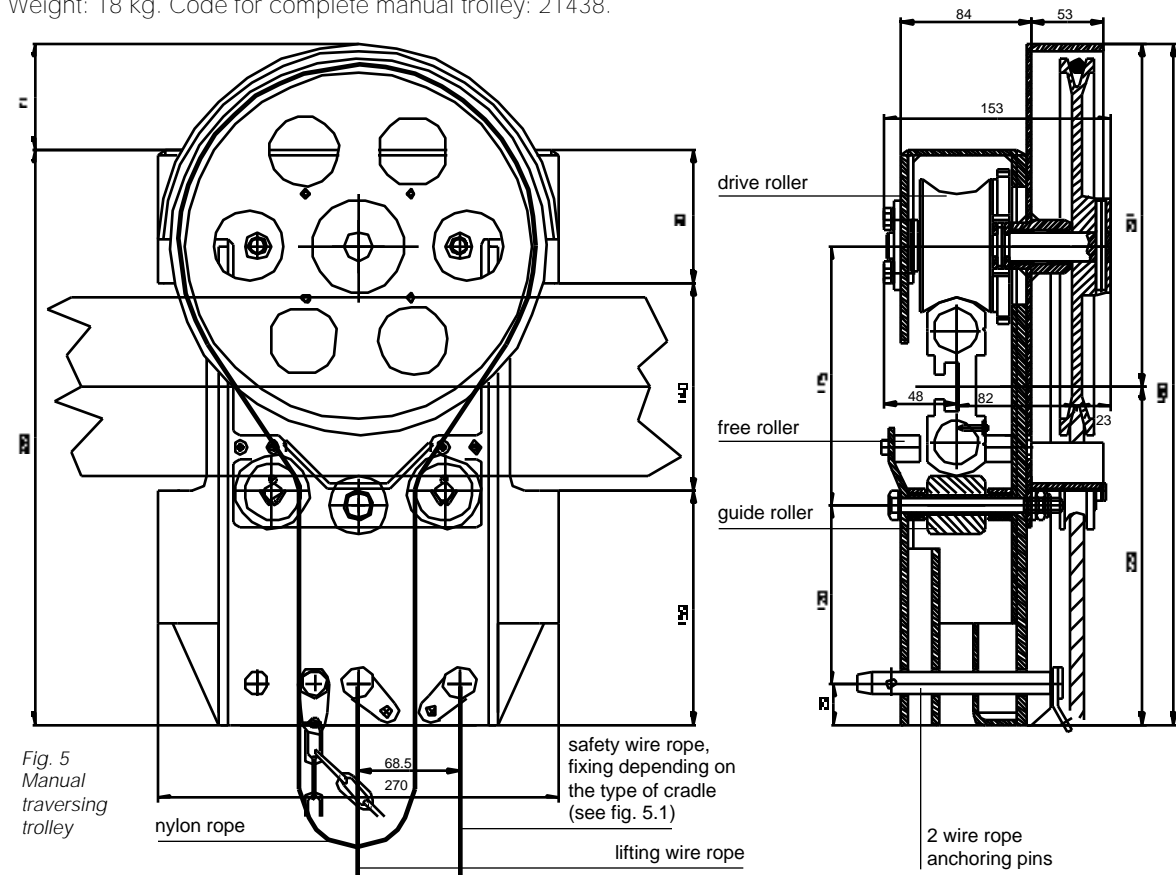

Fig. 5
8.1. Manual traversing trolley by endless rope (Fig. 5)